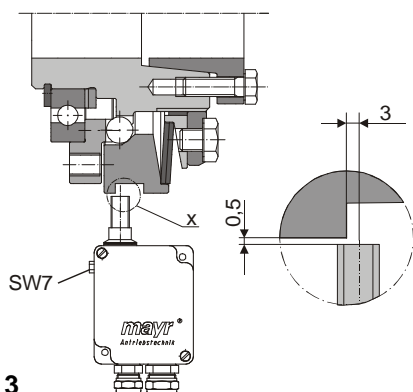

Fig. 13
Adjust the switch distances for the mechanical and contactless limit switch according to Figs. 13 or 14 respectively.
The distance of the thrust washer (3) from the switching point can sensitively be adjusted with a hexagon head cap screw SW7, Fig. 13 and 14.
The EAS®-NC size 01 has no groove in the thrust washer (3). The limit switch is located at the edge of the thrust washer (3) (switching edge see details "X" in Figs. 13 and 14).